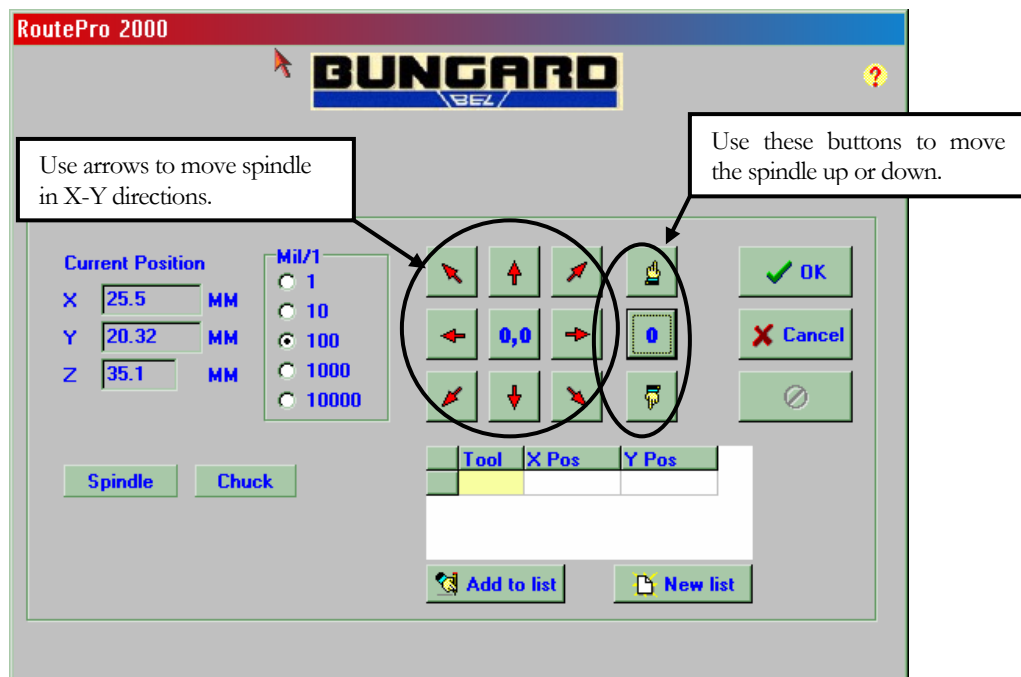

Figure 3 – Offset window.
2. Using the arrow buttons, move the spindle in the X-Y directions until the spindle is directly above the point on the circuit board where you wish to begin milling. This will mark the corner of the board nearest to the table origin ($X=Y=0$). See Figure 3.
3. To verify the correct position, you may lower the spindle until it is just above the board using the button with the finger pointing down icon. See Figure 3